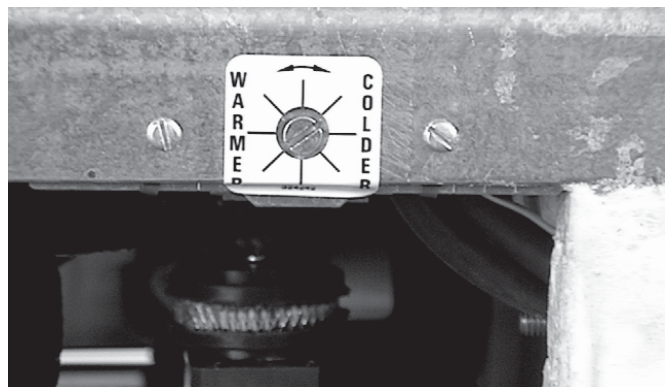

Figure 29. Temperature Control Cab
To check belt tension, refer to Figure 29 and follow the steps below:
- B. Press firmly on one belt. Figure 29.